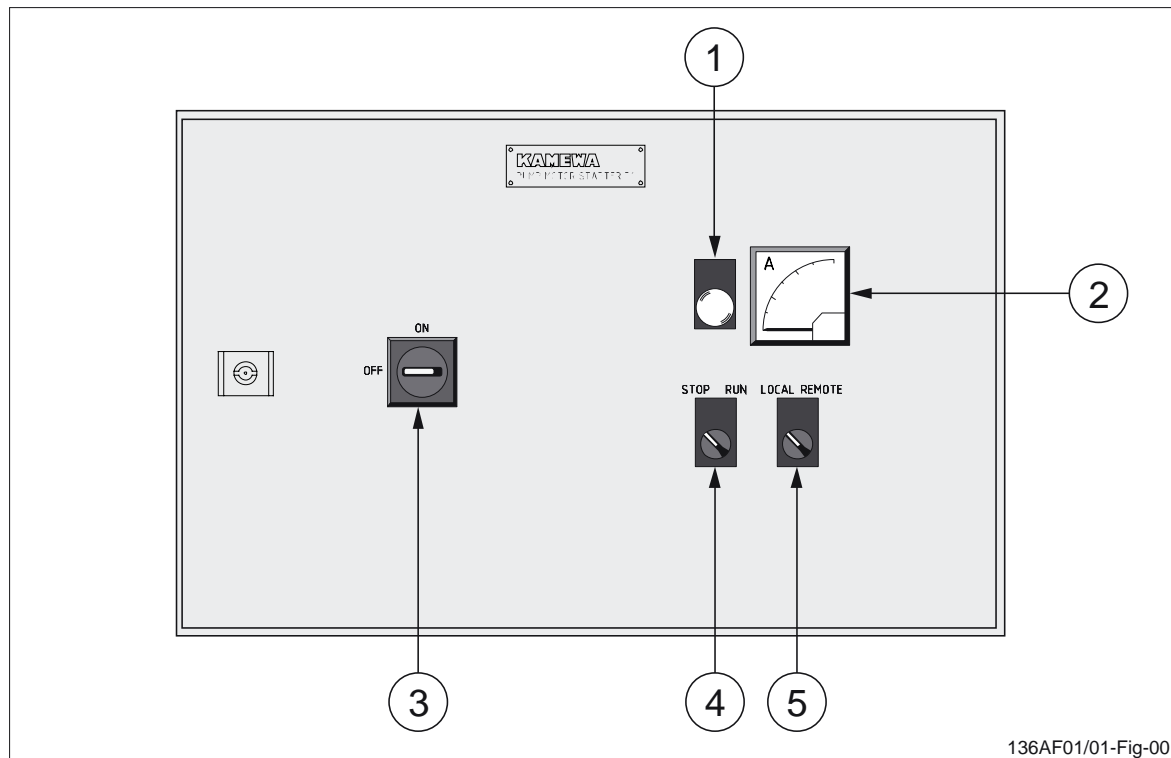

Figure 1 Front view of pump motor starter P1 or P2.
1. Turn the local/remote switch (see position 5 in figure 1) to LOCAL position.
2. Turn the stop/run switch (see position 4 in figure 1) to STOP position.
3. Turn the main switch (see position 3 in figure 1) to OFF position.